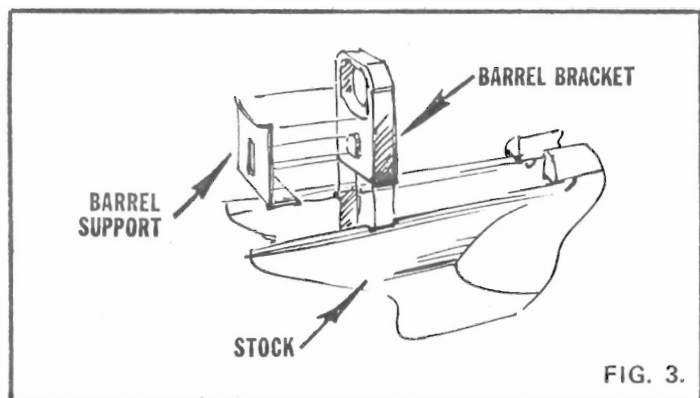

FIG. 3.
**To Disassemble** — Remove bolt handle and receiver cover assembly. Remove barrel and barrel lock screw from rifle. Lift up and pull barrel bracket assembly from recoil position in stock. See Fig. 3.